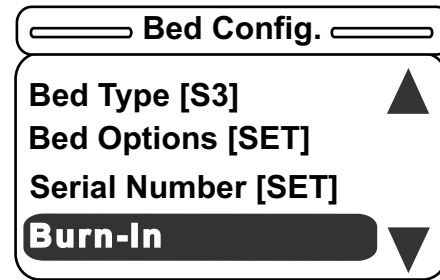

Figure 56 – Bed Config. menu
29. If you press Exit on the footboard panel while on the Serial Number screen, you will return to the Bed Configuration main menu (Figure 56).